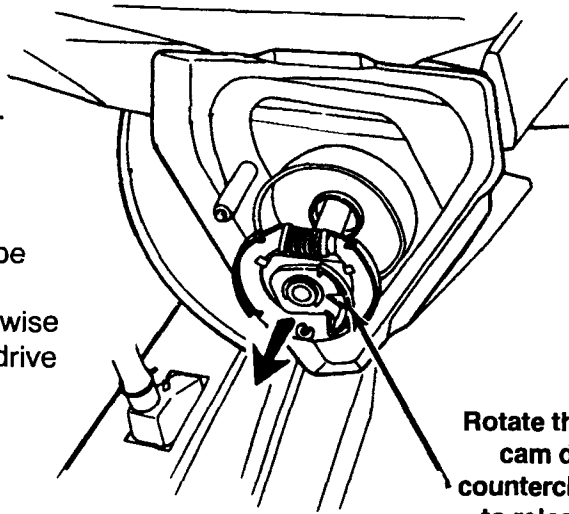

Fig. 68
6. Remove the three (3) bolts securing the gearcase assembly to the tub support.
8. Rotate the brake cam driver counterclockwise to release the brake. Pull the brake and drive tube straight out. (*Fig. 68*)